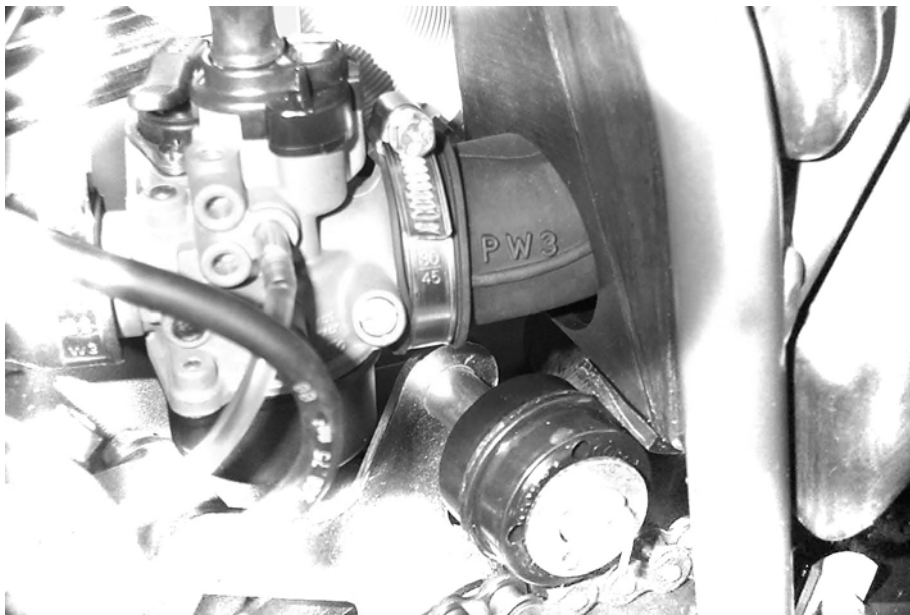

Figure 8
8. **Reinstall** the filter / boot assembly by pushing it down and forward into the airbox making sure the letters "PW" are visible between the carburetor and airbox (figure 8).